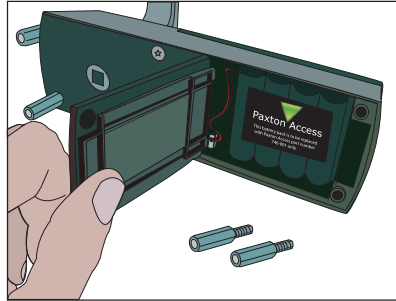

Fig 2
3. Remove the plastic access plate to reveal the battery pack. (746-001) - Fig 2.